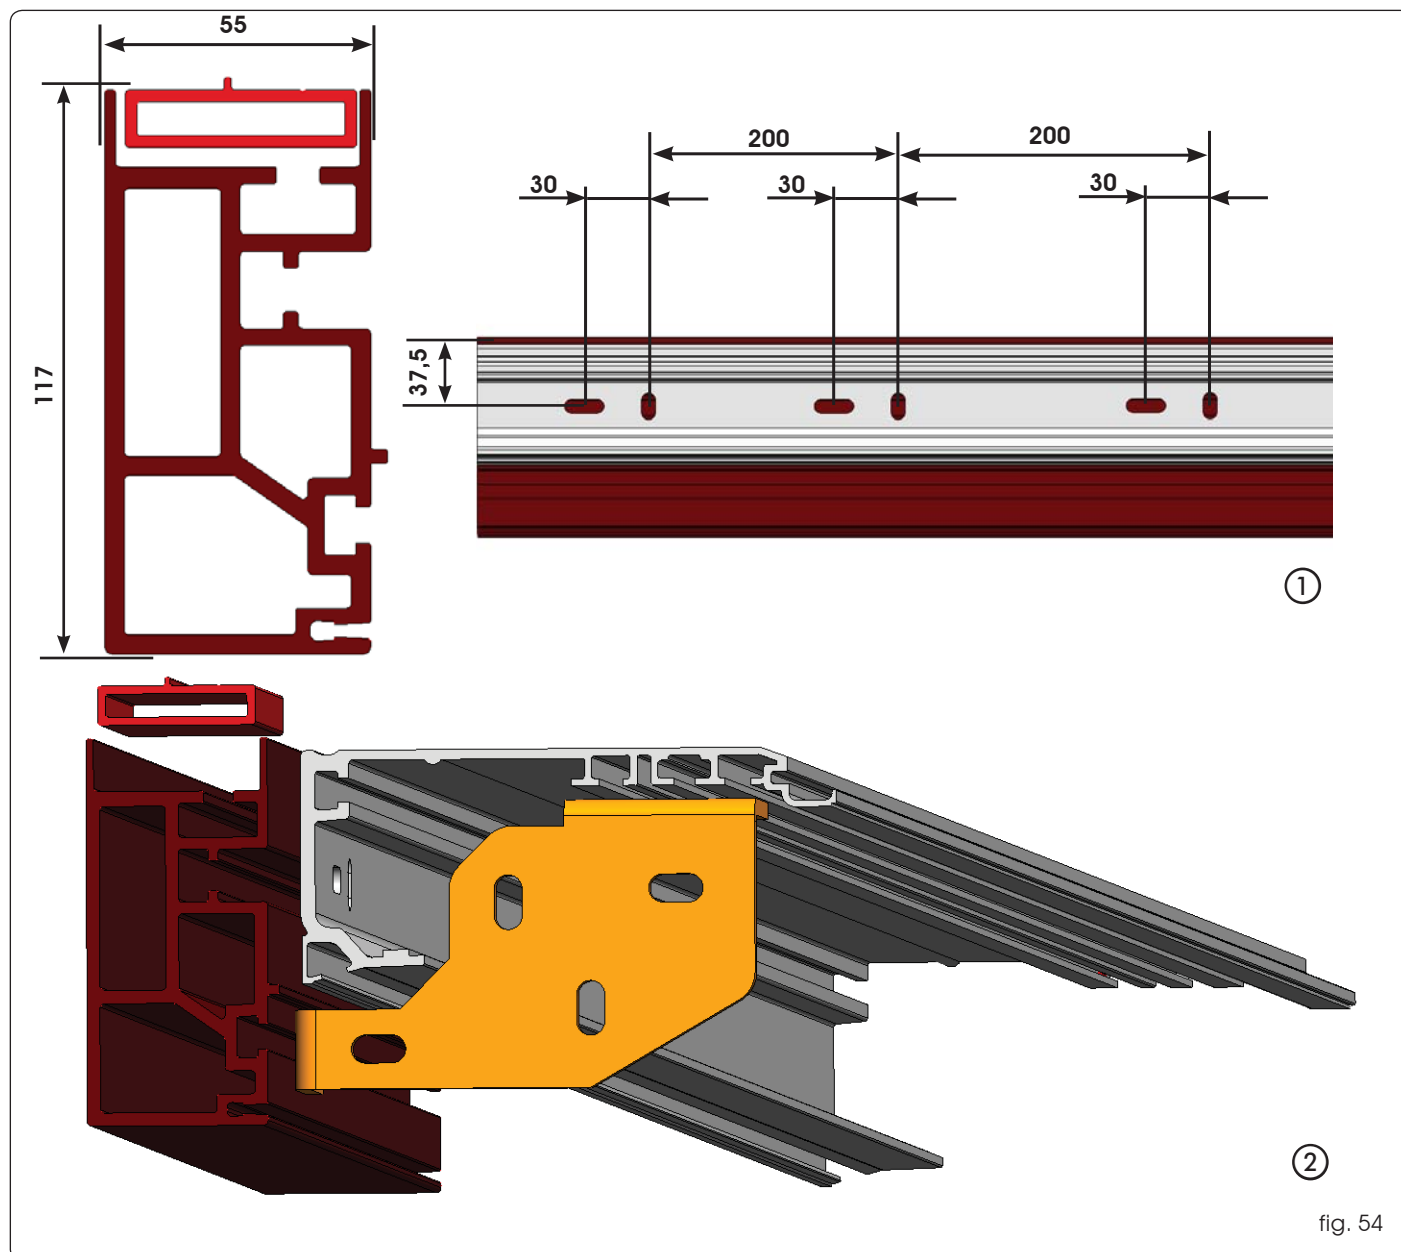

fig. 54
- Drill a series of holes on the free-standing profile in the position indicated in fig.54 at a distance of approx. 200mm between each other.
- Determine the exact position of the free-standing profile taking into consideration the overall dimensions of fig. 54 ①.
Secure centrally by lifting the cross beam with strength in order to align the three fastening points fig.54.
The cross beam of the automated system with the free-standing profile can be secured to both ends by using the side brackets accessory, fig. 54.
- Determine the exact position of the cross beam taking into consideration the overall dimensions indicated in fig. 54.
According to the cross beam length, intermediate fastening operations can be required and executed by means of the guide shown in fig.54.
- 3) Drill the necessary holes on the free-standing profile in the position shown in fig.54 ①.